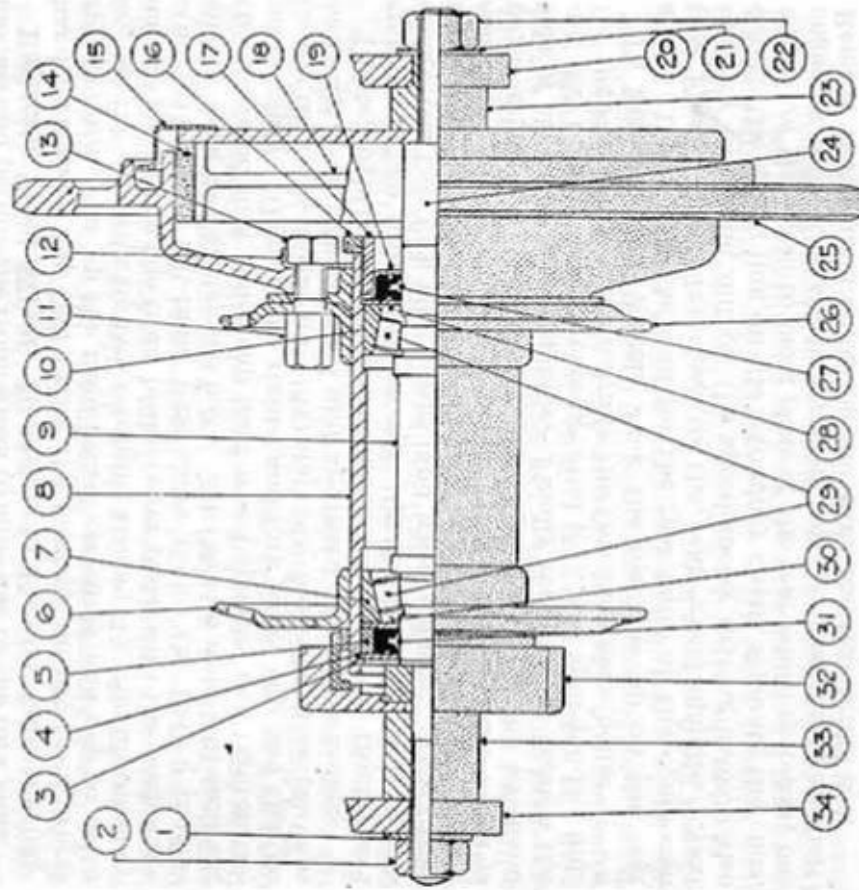
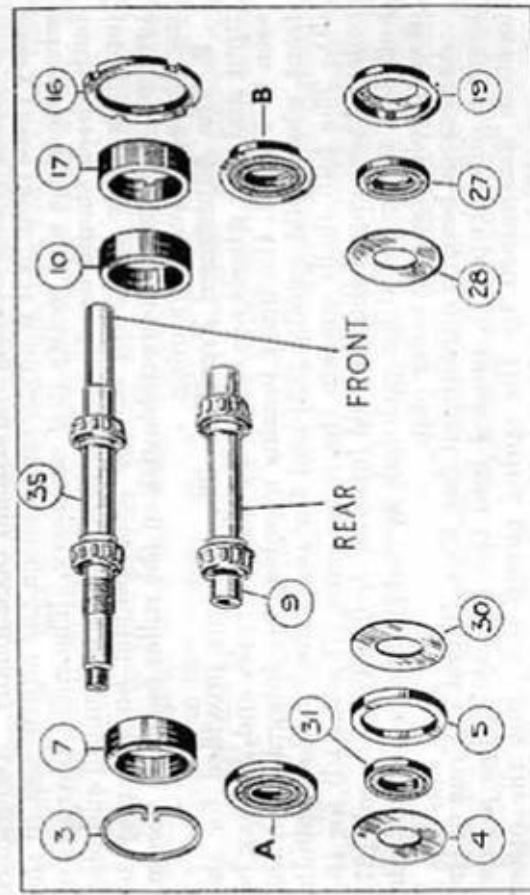

Fig. 70. REAR HUB ASSEMBLY SHOWN PARTLY SECTIONED
Fig. 71. WHEEL-BEARING COMPONENTS
Now slacken the nuts on both sides of the rear wheel solid spindle (see Fig. 70), passing through the hollow spindle, and carefully remove the rear wheel assembly from the fork ends.
The front hub assembly (see also Fig. 71) is similar, but a single solid spindle (with one nut on the rear-side) is used instead of the hollow spindle shown above, which has an internal solid spindle fitted with two nuts.
the ends of the wheel spindle, to position the speedometer gearbox (shown at (32) in Fig. 70) correctly. Positioning must be such as to permit of the gearbox driving cable being properly fitted.
KEY TO FIGS. 70 AND 71
2. The Adjustment Provided. The bearings provided for the front and rear wheels are of the taper roller type, and, as may be seen in Fig. 71, the inner bearing members are integral with the front wheel solid spindle (35) and the rear wheel hollow spindle (9). The hub shells contain the outer cups (7) and (10) for the rollers, these cups being pressed into the shells. Two oil seals (27) and (31) are provided for each hub assembly, one on the outside of each roller bearing outer cup.
As regards bearing adjustment (see Figs. 70 and 71), one of the bearing outer cups (7), pressed into the hub shell, has a fixed location determined by the spring circlip (3). But the other outer cup (10) has a movable location determined by the bearing adjusting ring (17) on the side opposite the circlip. This adjusting ring abuts the outer cup (10) and enables the end play to be adjusted by moving the outer cup. The adjustment is then secured by the locking ring (16).
Referring to Figs. 70 and 71, to adjust the roller bearings of a front or rear wheel, loosen the locking ring (16) for the bearing adjusting ring (17). Next tighten the bearing adjusting ring until all play has been eliminated. Then slacken off the adjusting ring exactly *one-half turn*. This should give about 0.002 in. end play. Finally retighten the locking ring (16), taking care to see that the adjusting ring does not move in the process.
Now, referring to Figs. 70 and 71, loosen the locking ring (16) for the bearing adjusting ring (17) and completely unscrew the adjusting ring. Remove the adjusting ring together with the locking ring. Then remove in this order: the dished cup (19); the oil seal (27); and the oil seal retaining ring (28). These three members comprise the oil seal assembly shown at B in Fig. 71, plus the retaining ring.
Referring to Figs. 70 and 71, press the roller bearing outer cup (7) into the *unthreaded* end of the hub shell. The cups (7) and (10) are interchangeable and are tapered axially. On assembly the *thinner* edge of the cup must always face *inwards*. When pressing the outer cup into the hub shell, check that the cup is absolutely square to the shell, and exert pressure until there is a clearance of not less than $\frac{3}{16}$ in. from its outer edge to the inside edge of the groove cut in the hub for the spring circlip (3).